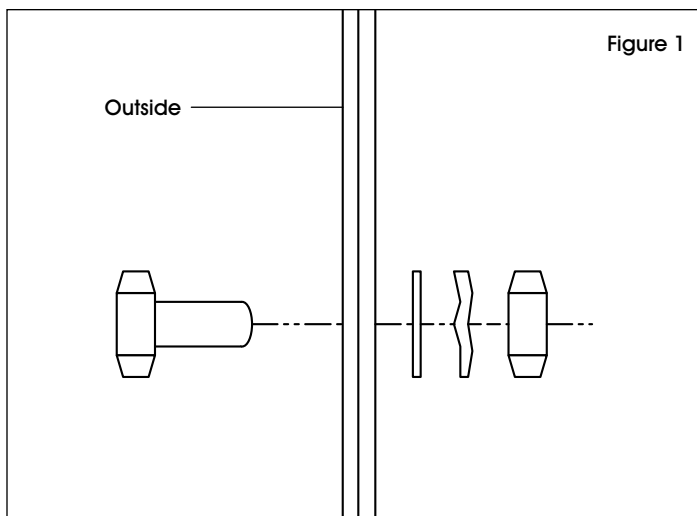

Figure 1
3. Place legs upside down on floor. Position shelf on legs. Insert socket screws through shelf and each leg from outside (7 places per leg). Tighten screws with flat washers, lock washers and nuts. Use a socket wrench. (See Figure 1)